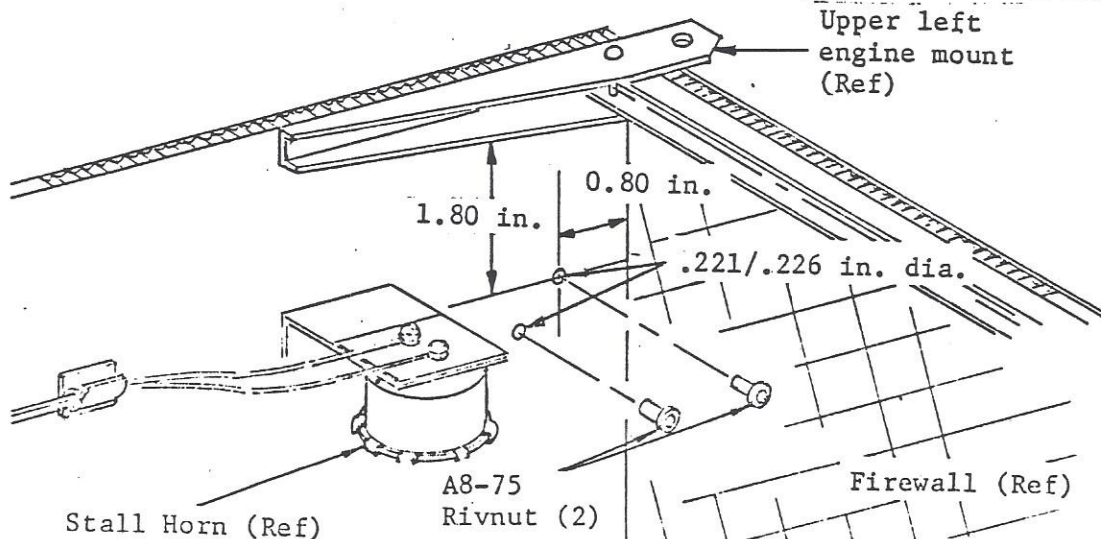

Figure 1. Stall Warning Controller Assembly Location
Installation Instructions (Figure 1 and 2)
1. Refer to figure 1 and measure aft from the firewall 0.80 inch and scribe a line. Measure down from the lower edge of the engine mount and scribe a line at 1.8 inches.
2. At the point where the two scribed lines intersect, drill a .221/.226 in. dia. hole through the honeycomb inner skin only. Install one (1) rivnut (A8-75) using a B.F. Goodrich C-6000-8-32 speed header hand operated installation tool.